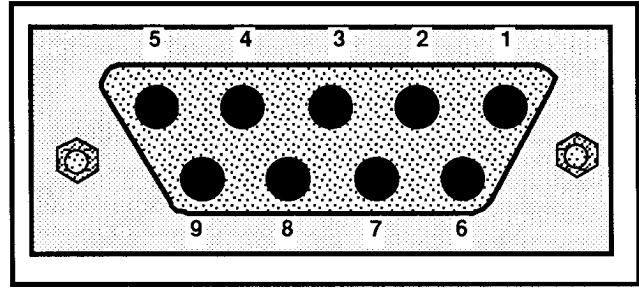

Figure 3-4. Accessories connector J103.
- e. Monitor Pin 3 of J103 (Figure 3-4) with the test oscilloscope. Set the test oscilloscope sweep rate to 10 ms/Div and volts/Div to .5.
- g. Monitor Pin 6 of J103 (Figure 3-4) with the test oscilloscope. Set the test oscilloscope sweep rate to 1 ms/Div and volts/Div to 2.
- j. Monitor Pin 7 of J103 (Figure 3-4) with the test oscilloscope. Set the test oscilloscope volts/Div to .5.
- d. Connect a 100 kHz square-wave signal to Pin 1 of J103 on the rear panel of the spectrum analyzer. See Figure 3-4.